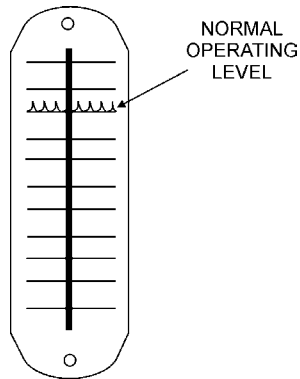

Figure 11. Hydraulic Sight Glass
3. Visually read the hydraulic sight glass (Figure 11) to see if the hydraulic oil level is low.